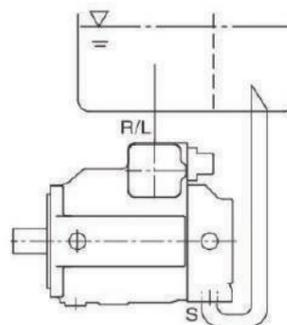

图5
b) 如安装在油箱之下,《R/L》和《S》口用管道连接,如图5所示。
For mounting under the tank, port R/L and S must be connected with pipes, as shown in Figure 5.